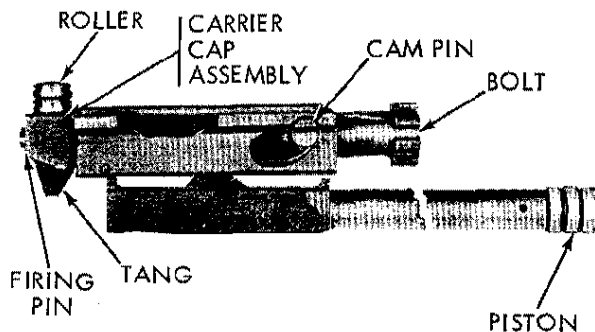

FIGURE 16. CARRIER, PISTON AND BOLT ASSEMBLY
(1) Push down on the base of the firing pin until it is flush with the back of the carrier cap assembly (fig. 16).
4. Carrier and piston assembly. Shake the gas cylinder assembly (fig. 16) to determine if the inertia pin in the piston rod has free movement. If it is not free, remove the roll pin and piston head and clean. Saturate patches with bore cleaner and wipe the exterior surface of the piston as clean as possible. The piston does not need to have a shiny surface to function properly. Do not use abrasives to clean the piston.
(3) Replace the firing pin in the bolt carrier. Push down on the rear of the firing pin until it is flush with the rear of the carrier cap assembly. Holding the firing pin in this position, rotate the carrier cap assembly 1/4 turn, so the tang on the carrier cap assembly is in the downward position as shown in figure 16.